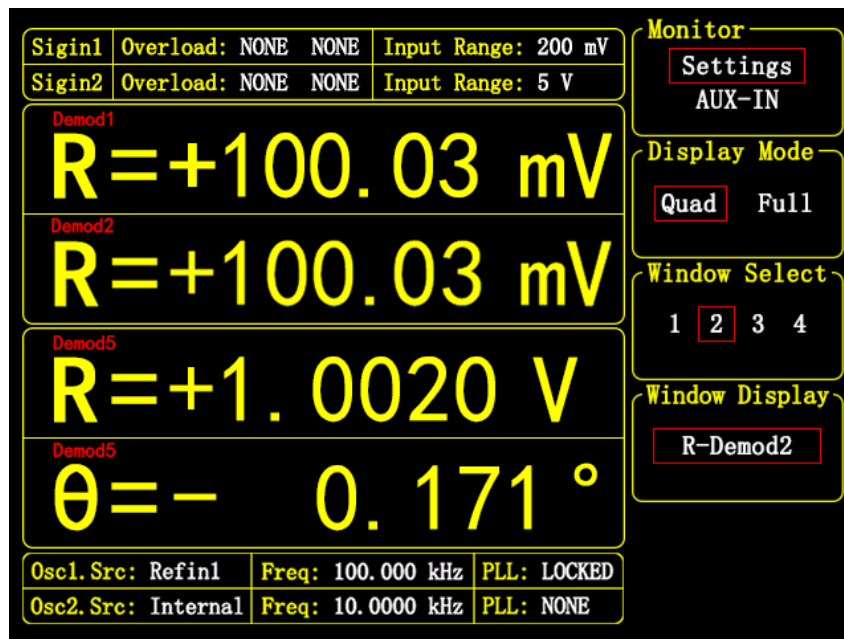

Figure 99. Modified Window Display Result
In the default system settings, the four data windows display the $\langle R \rangle$ and $\langle \theta \rangle$ values of Demod1 and the $\langle R \rangle$ and $\langle \theta \rangle$ values of Demod5, respectively. The displayed values can be changed using the method described below. In the [Display] submenu, press "Soft key 3" to switch among <1>, <2>, <3>, and <4> in the <Window Select> menu. For example, selecting <2> means that the second window is selected. Then press "Soft key 4" to select the <Window Display> menu, and use the knob to change the displayed value to "R-Demod2". After the modification, the result is shown in Figure 99. This method can be used to view the desired measurement result.